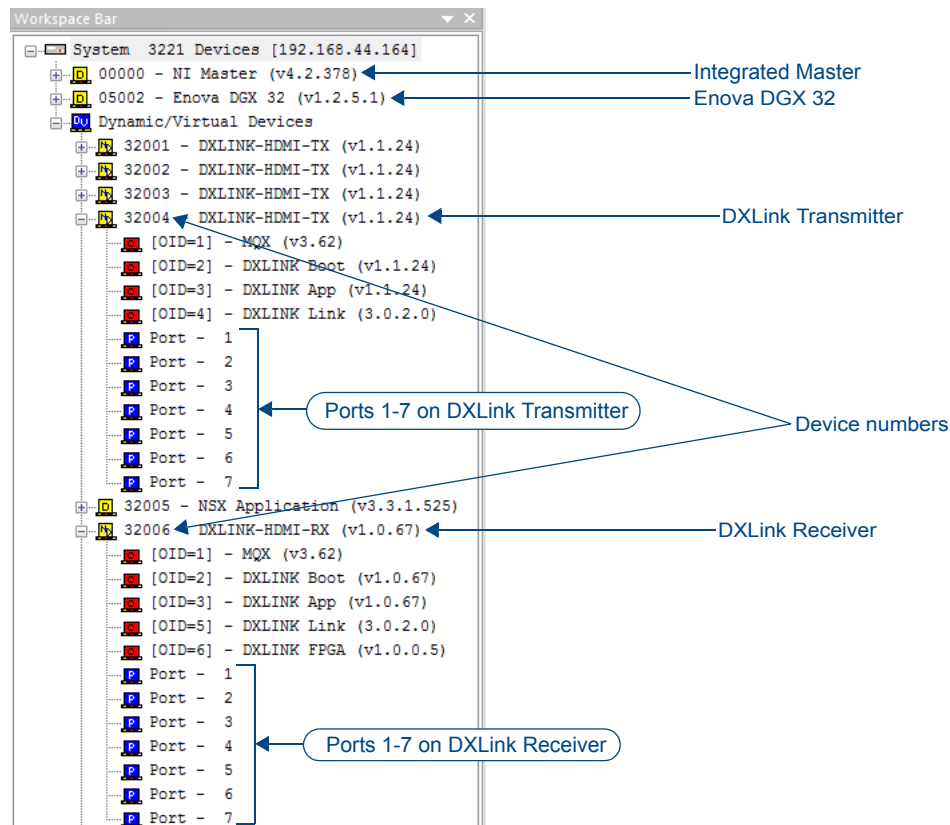

FIG. 40 NetLinX Studio – Integrated Master, Enova DGX 32, DXLink Transmitter, and DXLink Receiver
When a Transmitter and/or a Receiver are being used in conjunction with a switcher as an endpoint system, the switcher's integrated Master is used for the KIT file transfer. FIG. 40 shows a Transmitter and a Receiver bound to the integrated Master in an Enova DGX 32 in NetLinX Studio's OnLine Tree. Follow the instructions on the top of page 104 to prepare an endpoint system for KIT file transfer and the instructions on page 107 for the actual transfer.
7. Determine the Device Number assigned to the target Transmitter or Receiver when it was bound. For the Device Number location, see FIG. 40 on page 103. The Transmitter or Receiver is ready for the KIT file transfer.
- 7. Right-click in the workspace and select Refresh System OnLine Tree. The module will appear in the OnLine Tree and locate the DXLink Module and the virtual device ID assigned to it (32002 in the example). For the Device Number location, see FIG. 40 on page 103.